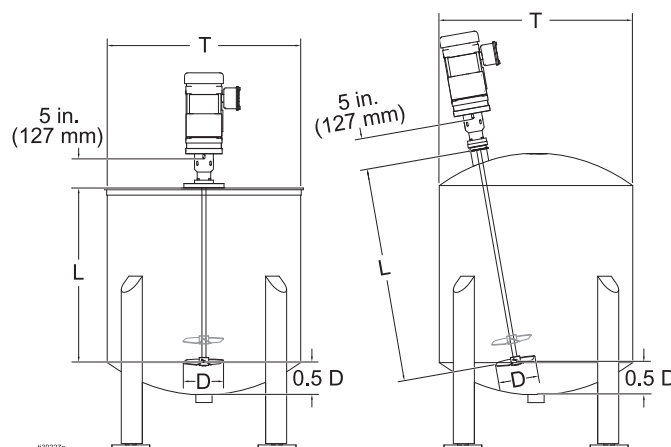

FIG. 1: Measure for Shaft Length
*Recommended impeller blade diameter is generally determined by taking the inside dimension of the tank, drum, or vessel (T in FIG. 1) and multiplying by 0.35.
1. Find the distance from the bottom of the tank up 1/2 the impeller diameter (i.e., 2", 4", or 6") (See 0.5 D in FIG. 1).
2. From that point, measure to the lid mounting surface (L).
3. Add measurement in step 2 (L) to the length of the bearing housing (5" or 127 mm).